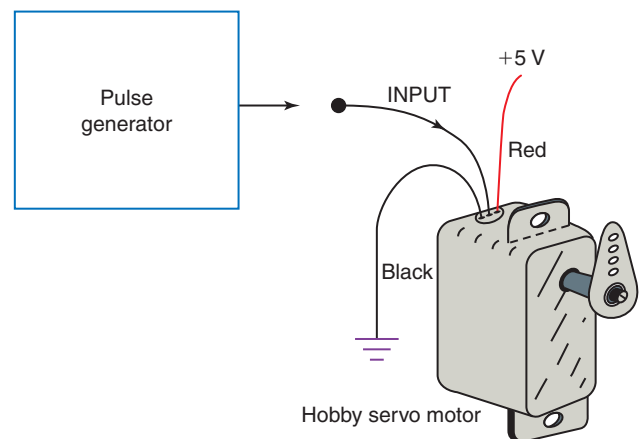

Fig. 5-46 Driving a servo motor.
- 5-53. Refer to Fig. 5-46. The pulse generator will vary the _____ causing the servo motor to adjust the angular position of the output shaft.